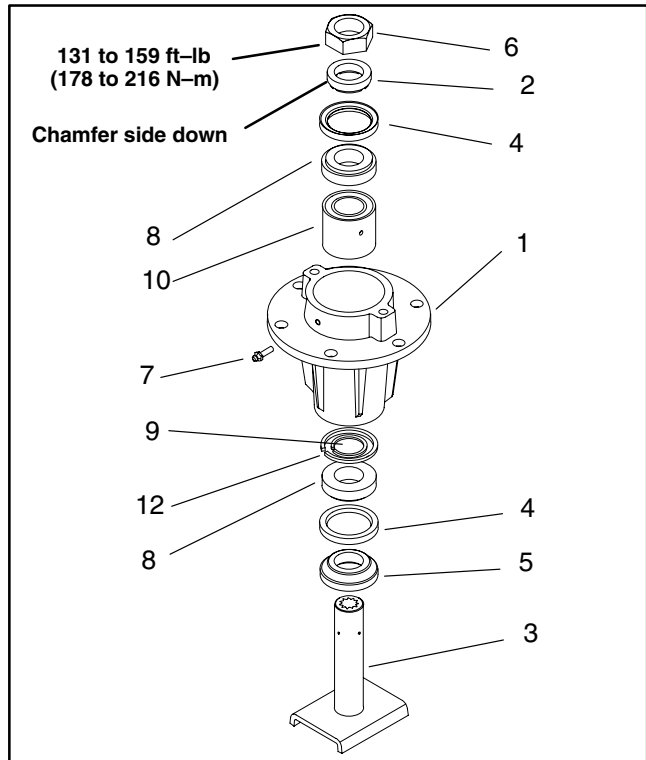

Figure 31
6. Loosen and remove spindle nut from top of spindle shaft (Fig. 31).